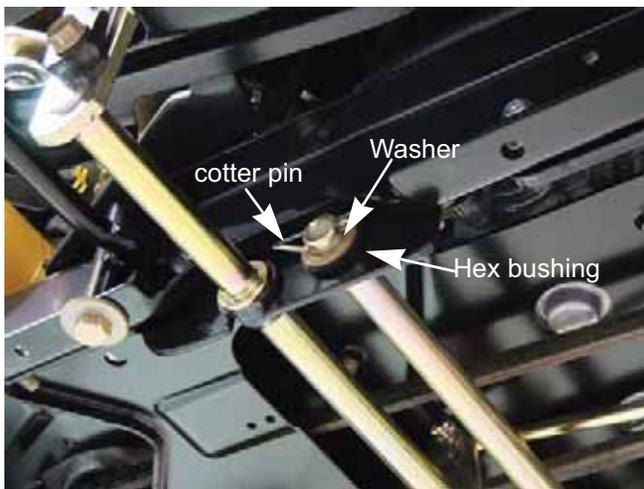

Figure 5A.15
5. Remove the washer and hex bushing. See Figure 5A.15.